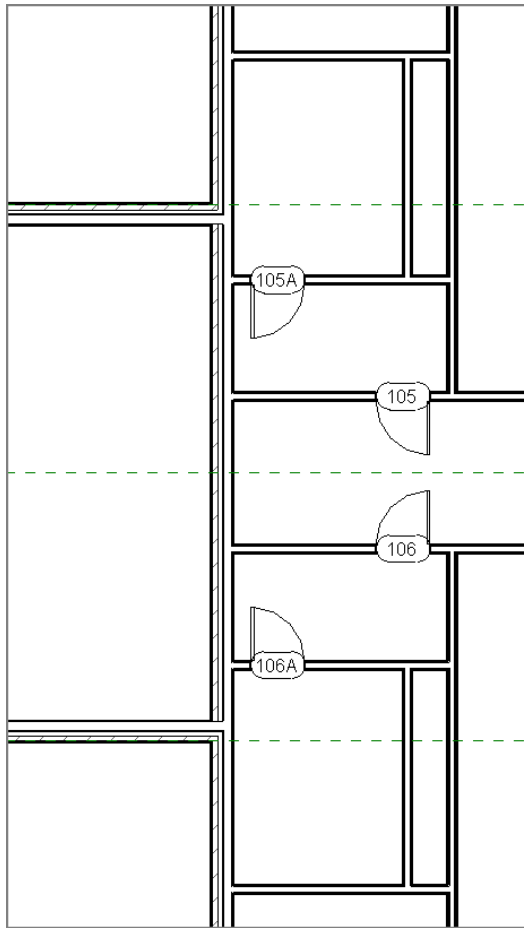

FIGURE 2.72: Adding lavatory doors. You'll have to renumber the tags.
7. Add lavatory doors as shown in Figure 2.72, keeping all offsets 1'-0" (300mm) away from the walls. Use Single-Flush: 36" × 84" (M_Single-Flush 0915 × 2134).